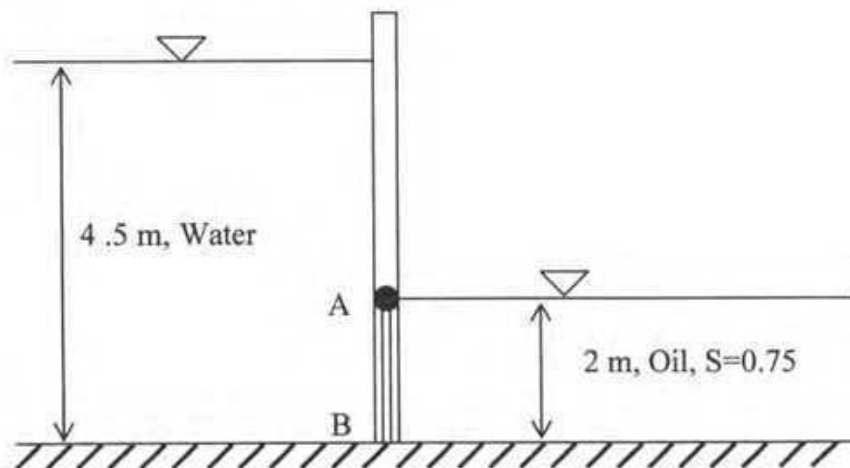

Figure 7
- c. The following Figure 7 shows a gate AB hinged at the end A. If the gate is 1.5 m wide, calculate the horizontal force required at B to keep the gate in equilibrium. 12